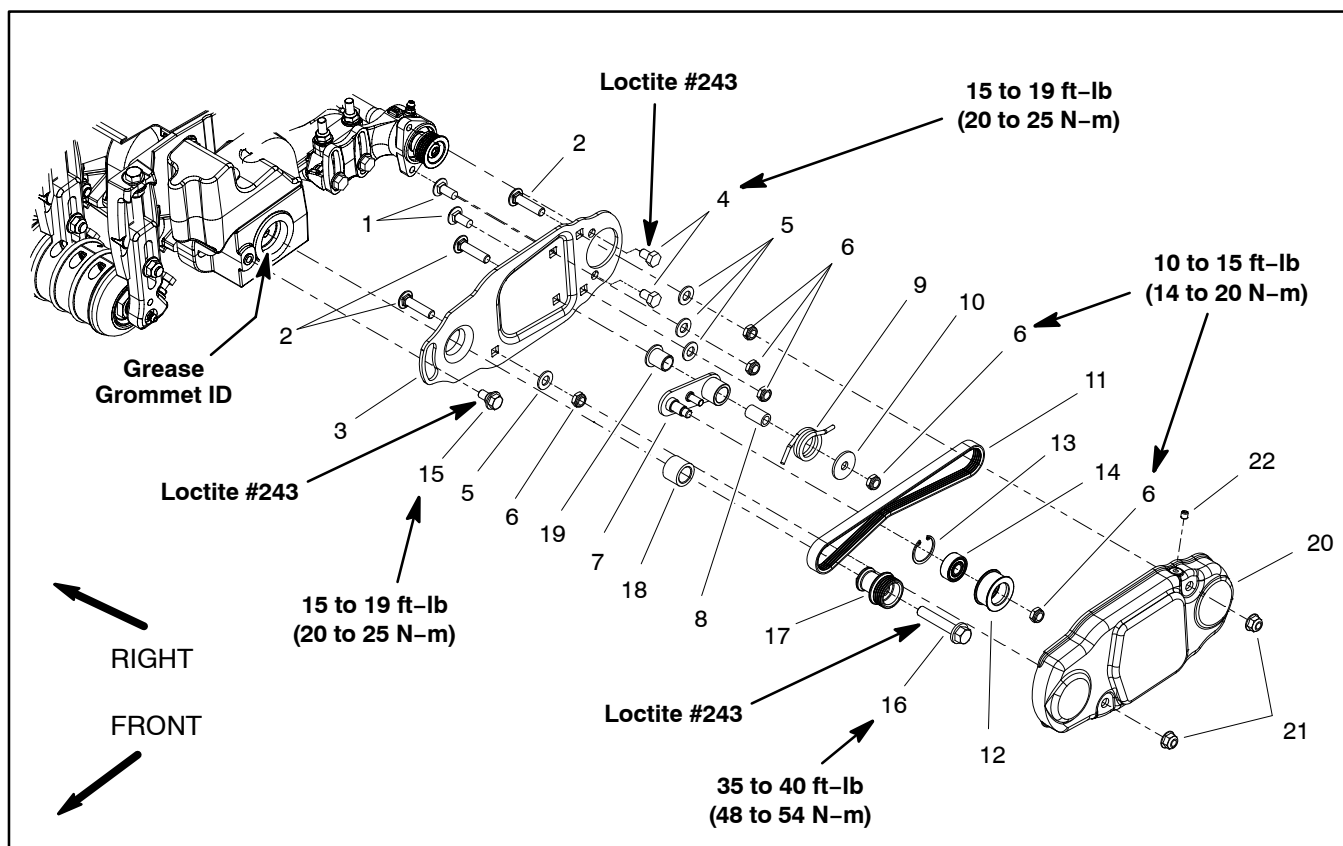

Figure 51
Drive System Disassembly (Fig. 51)
3. Remove cover (item 20) to access rear roller brush drive components.
4. Remove roller brush drive components as necessary using Figure 51 as a guide.
Drive System Assembly (Fig. 51)
C. Position housing to cutting unit side plate and secure to cutting unit with two (2) socket head screws.
2. Assemble roller brush components using Figure 51 as a guide.
A. During assembly, apply Loctite #243 (or equivalent) to threads of fasteners and torque fasteners as shown in Figure 51.
C. Brush plate should be installed so that idler pulley assembly is toward the bottom of the plate. Also, the shoulder bolt (item 15) should not clamp the brush plate to the drive housing during assembly.
D. When installing drive pulley (item 17), make sure that tabs on pulley engage slot in drive shaft.
E. Idler arm (item 7) should be free to rotate after assembly to brush plate. Make sure that idler spring is installed so that it can rotate the idler arm and pulley and apply tension to the drive belt.